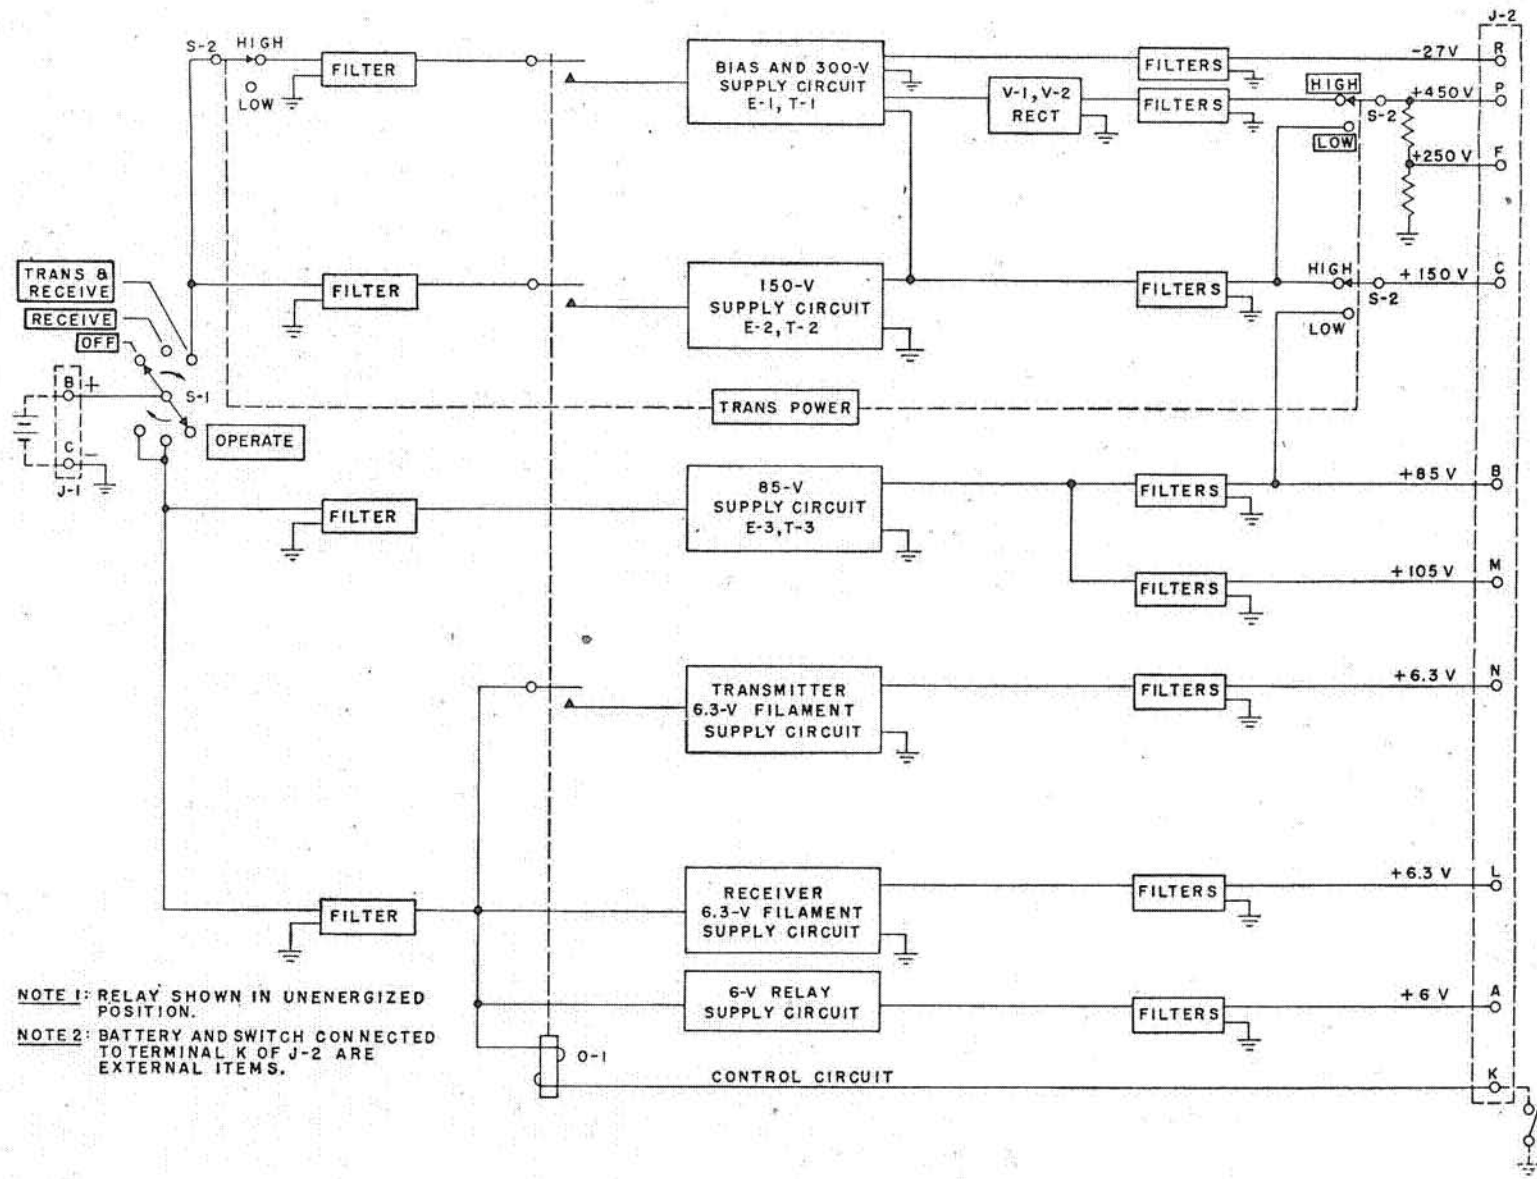

Figure 53. Set 1 power supply, block diagram.
(fig. 53)
a. Figure 53 is a functional block diagram of Power Supply PP-109/GR or Power Supply PP-112/GR. It shows the three h-v circuits and the